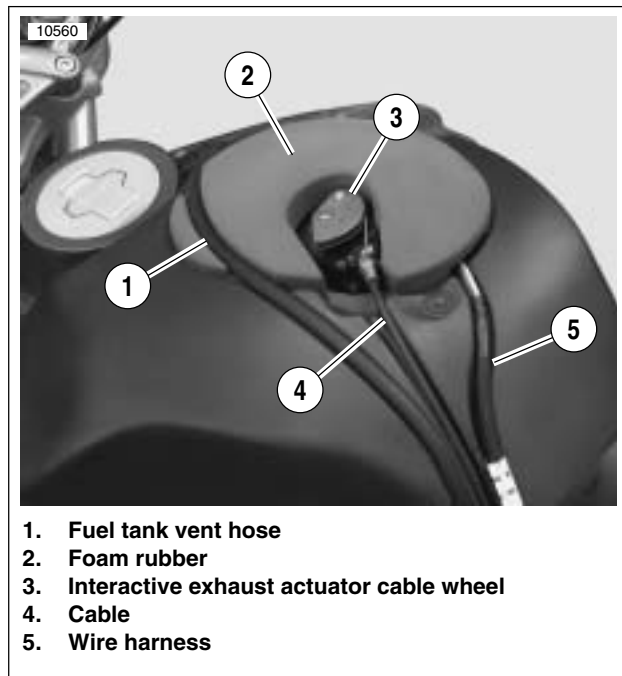

Figure 7-85. Interactive Exhaust Installation
2. See Figure 7-85. If installing actuator:
- a. Attach interactive exhaust cable (4) to cable wheel (3) on actuator.
- b. Install foam rubber isolator (2) and actuator and fuel tank vent hose (1).
- c. Adjust cable (4). See 1.17 INTERACTIVE EXHAUST CABLE(XB12 MODELS ONLY).